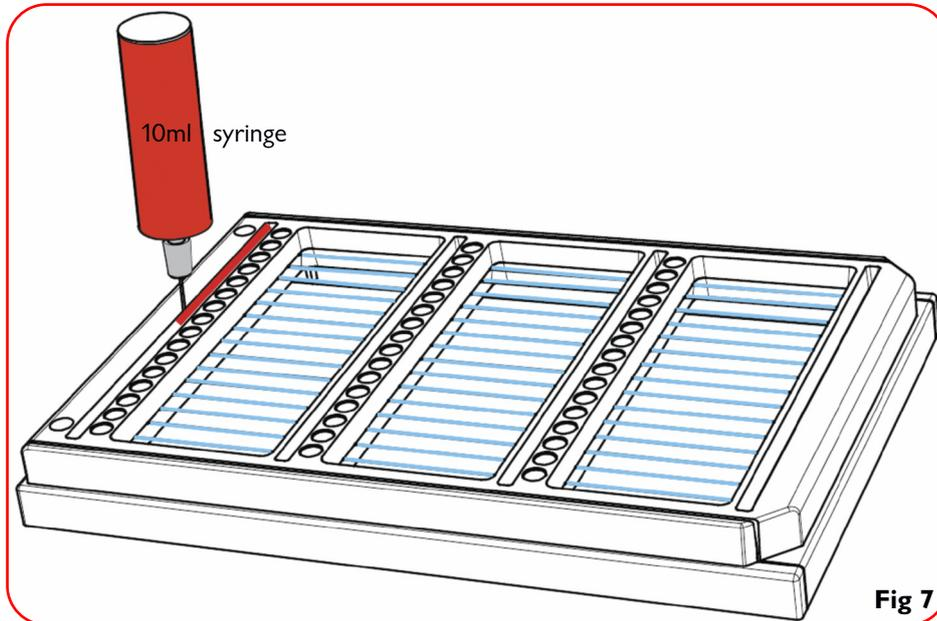

Figure 7
7. Insert the sealant sealing paste using the syringe (10ml size) with the orange delivery nozzle into the first long trough #1 (**Figure 7**). Ensure the sealing paste completely encloses each broken end of the capillaries without any entrapped air bubble. Fill the entire trough to the top with sealing paste.